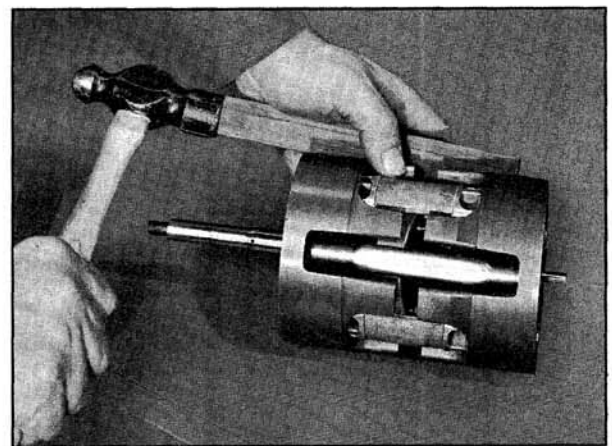

Fig. 14-124 Separating Cylinder Halves
2. Drive the cylinder halves apart using a wood block and hammer. (Fig. 14-124)